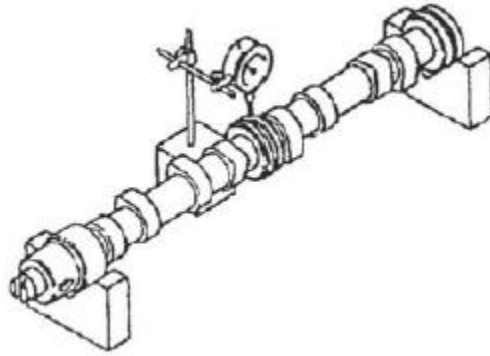

Figure 104.
1. Use V-blocks and a dial indicator to check camshaft bend (Figure 104). Place the indicator on the center bearing journal.
9. Stagger the piston ring end gaps at 120° intervals (Figure 104). Do not position the top piston ring end gap in line with the piston pin.